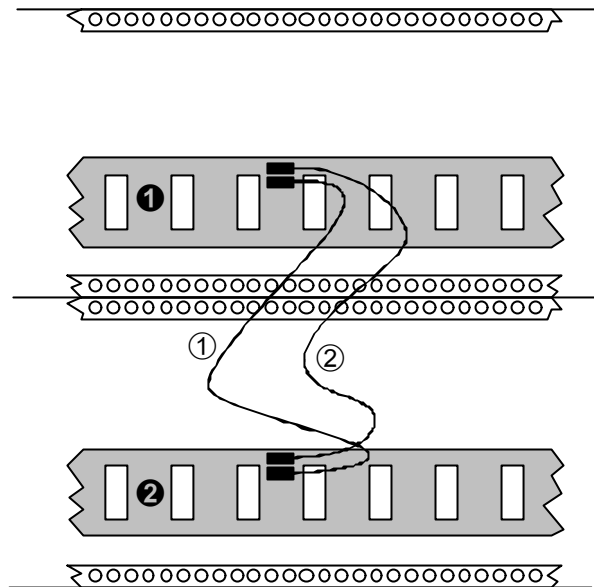

Fig. 8: Making a common INT.CV and INT.GATE signal path between the upper and lower buses.
- D Remove Jumpers **J1** and **J2**(see p.9) from the upper (see Fig. 8 !) and lower (see Fig. 8 ") system bus boards.
- D Replace the jumpers with the special CV / gate leads, A-100 BC (see Fig. 8 1, 2).